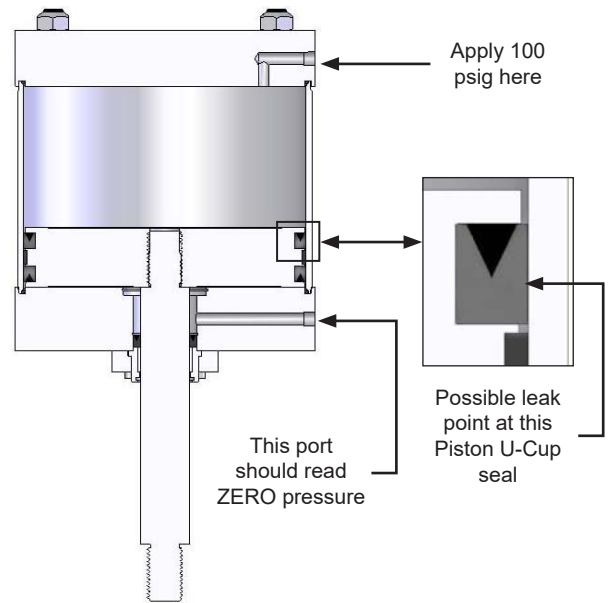

Figure 5. Piston Seal U-Cup leak test N°1
1. Apply 100 psig power supply gas to the cylinder top port and ZERO pressure to the cylinder bottom port as show in figure 5.